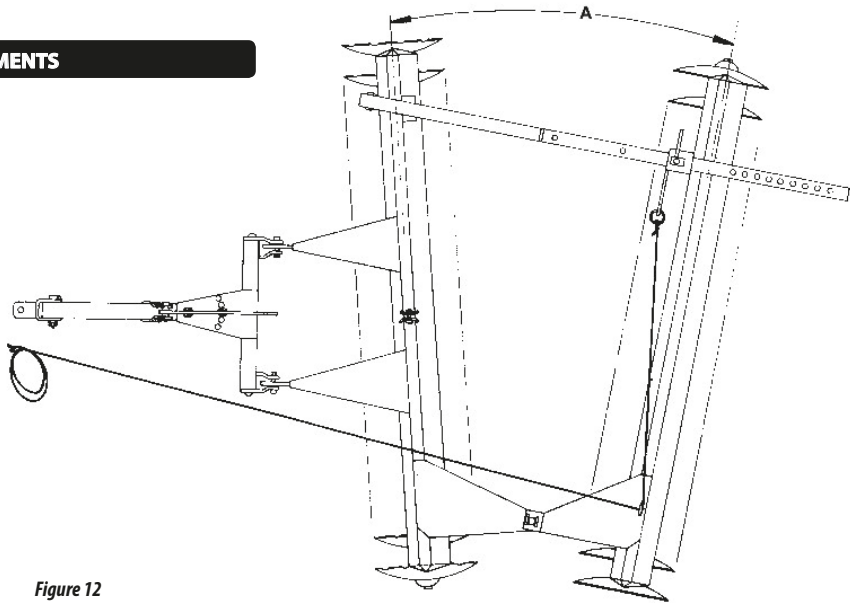

Figure 12
- For hard ground conditions, or when more penetration is desired increase the angling of the discs as illustrated on the figure 12.